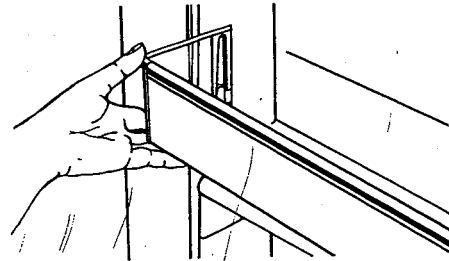

Figure 32
- b. Pull shelf straight up. See Figure 32.